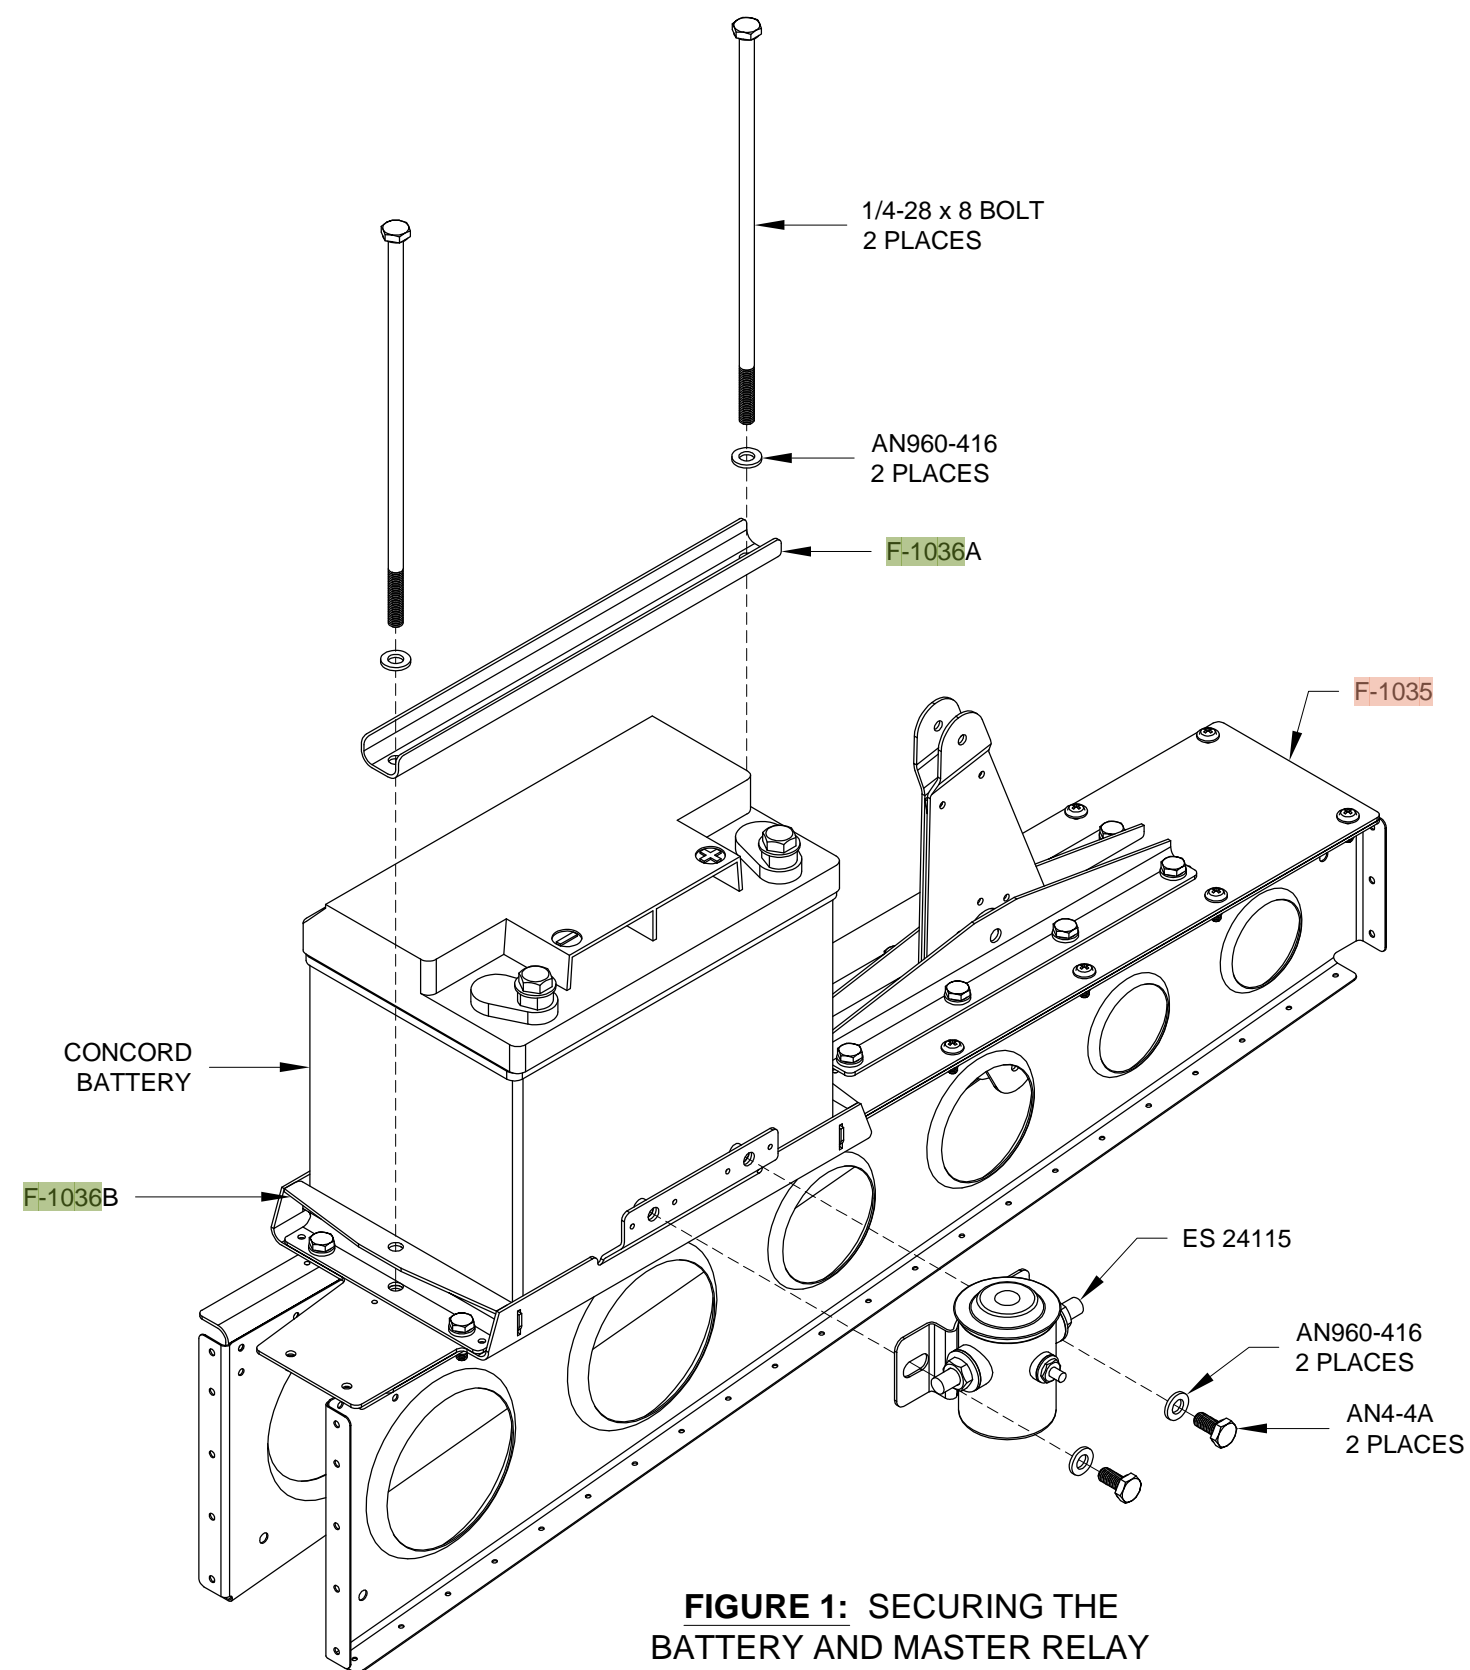

FIGURE 1: SECURING THE BATTERY AND MASTER RELAY
Step 1: Secure the Concord Battery to the F-1035 Battery /Bellcrank Mount using the F-1036A Battery Channel and the hardware shown in Figure 1. The top hole in each F-1036B Battery Channel may be enlarged if it is difficult to install the bolts.
Step 2: Secure the ES 24115 Master Relay to the F-1035 Battery /Bellcrank Mount using the hardware shown in Figure 1.